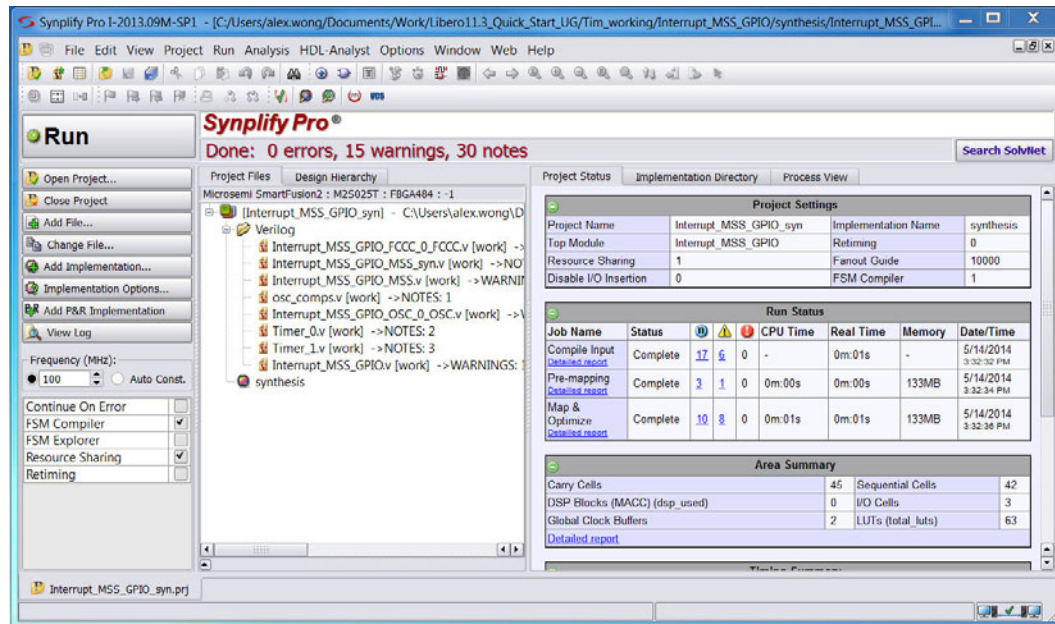

Figure 4-13 • Synplify Pro GUI
You can change the frequency in the Synplify Pro GUI to meet your design requirements. In this design, we are not changing the frequency (Figure 4-13).
- Click **Run** to map the design (Figure 4-13). When **Ready** in Synplify Pro changes to **Done:0 errors**, the design has been mapped successfully.